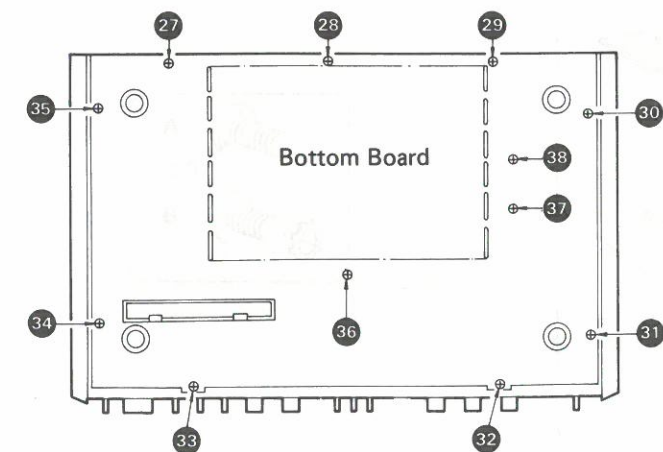

Fig. 8
1. Remove the 12 setscrews (Fig. 8 : 27 ~ 38) of the bottom board.